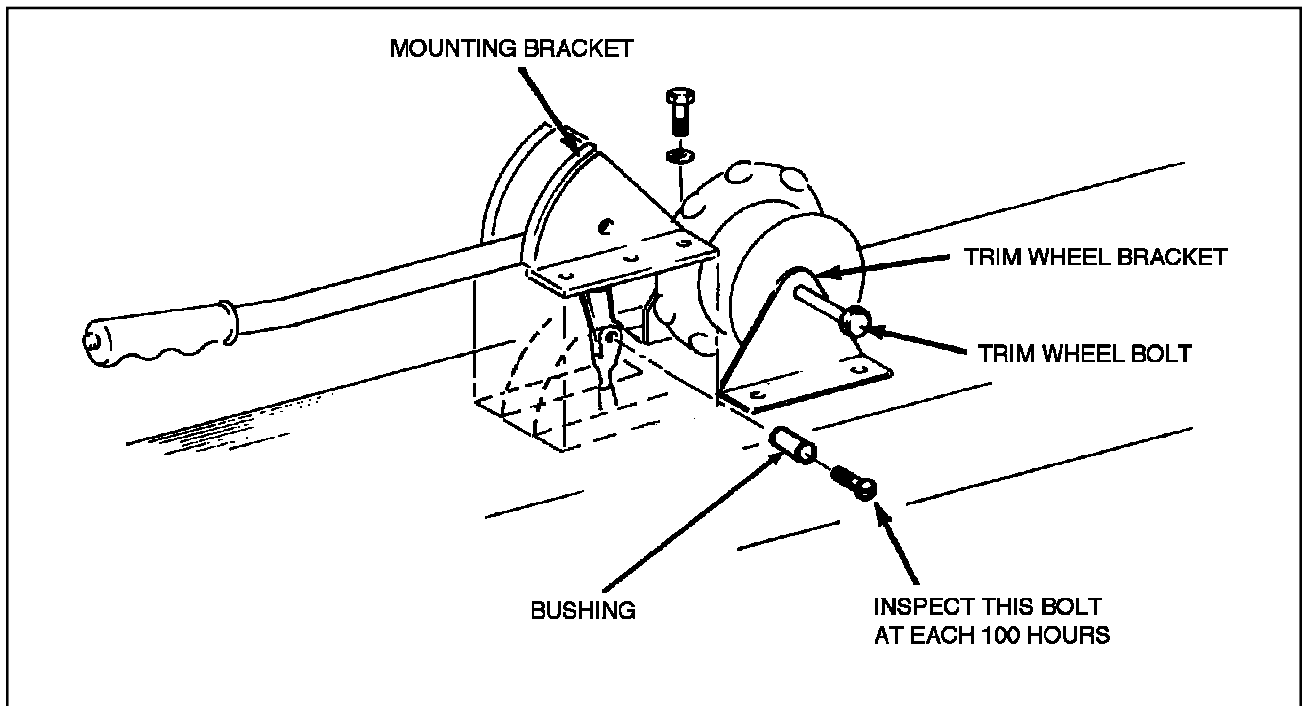

Figure 3-2. Flap Control Cable Attachment Bolt Inspection (Typical)
### (5) FLAP CONTROL CABLE ATTACHMENT BOLT INSPECTION. (See Figure 3-2.)